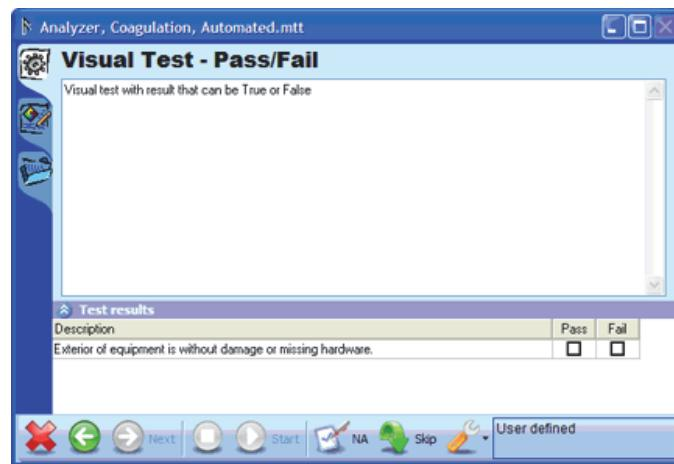

Figure 3-4. Ansur Test Guide Window
4. To start the template, click **Test | Start Test** or click the **Start Test** icon () on the menu toolbar to display the Test Guide window shown in Figure 3-4.